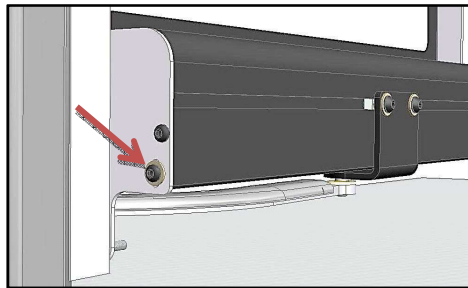

Fig. 2
- Remove the screw that holds the flap on both sides (Fig. 2)